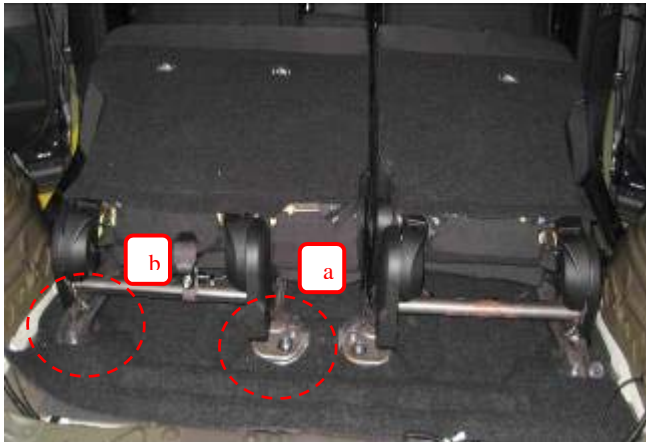

Figure 5-1
- b. Torque Seat bolts to 42 N•m (31 ft•lbf) per installation recommended pattern for both seats (Figures 5-1 and 5-2)